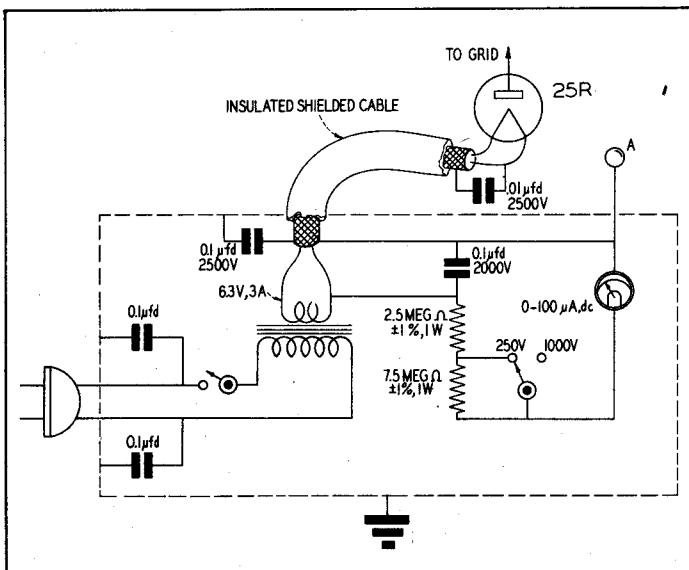

Figure 1. Peak vacuum tube voltmeter for making  $E_{gm}$  or  $e_{cmp}$  measurements.
In order to use these expressions for  $P_g$  it is necessary to determine either  $E_{gm}$  or  $e_{cmp}$ . A suitable peak voltmeter for this purpose is shown in figure 1. When terminal (A) is connected to the negative end of the C-bias supply the meter reads  $E_{gm}$ . With (A) connected to ground, the meter indicates  $e_{cmp}$ . The first method of connection is most useful in measuring total grid driving power. When used to determine grid dissipation or driving power on a push-pull stage by measuring the voltage on each grid separately it may be advisable to shunt the "free" side of the grid tank circuit with a small capacitor having a capacitance equal to that introduced by the v.t.v.m.